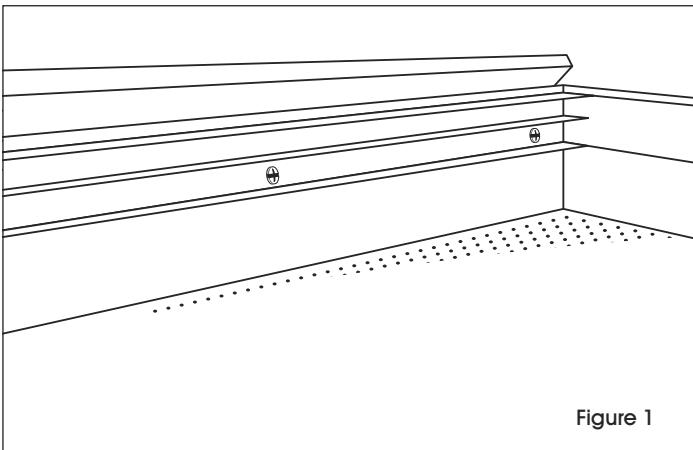

Figure 1
1. Attach the aluminum track to the inside of the message center. The aluminum track will go on the top and bottom of the message center. Make sure the tracking is as far from the cork board as possible. Screw one of the pieces of the aluminum track using the phillips head screws to the top of the message center. (See Figure 1)